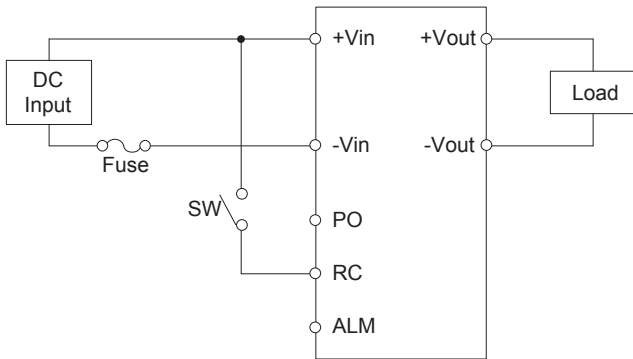

Fig.1.1 Connection for standard use
■ In order to use the power supply, it is necessary to wire as shown in Fig.1.1.